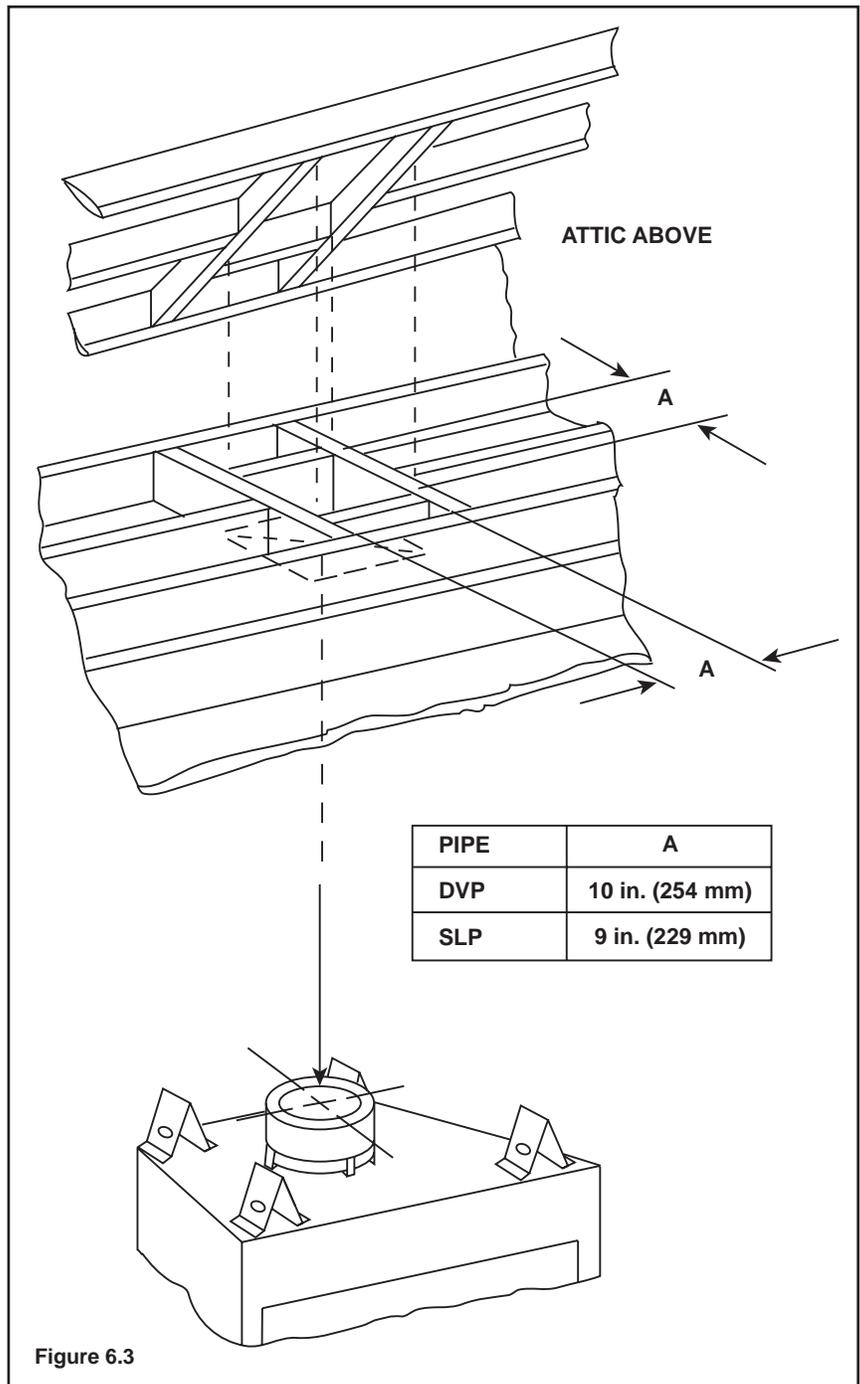

Figure 6.3
- **DVP pipe only** - Frame an opening 10 in. by 10 in. (254 mm by 254 mm) whenever the vent penetrates a ceiling/floor (see Figure 6.3).
- **SLP pipe only** - Frame opening 9 in. x 9 in. (229 mm x 229 mm) whenever the vent penetrates a ceiling/floor (see Figure 6.3).